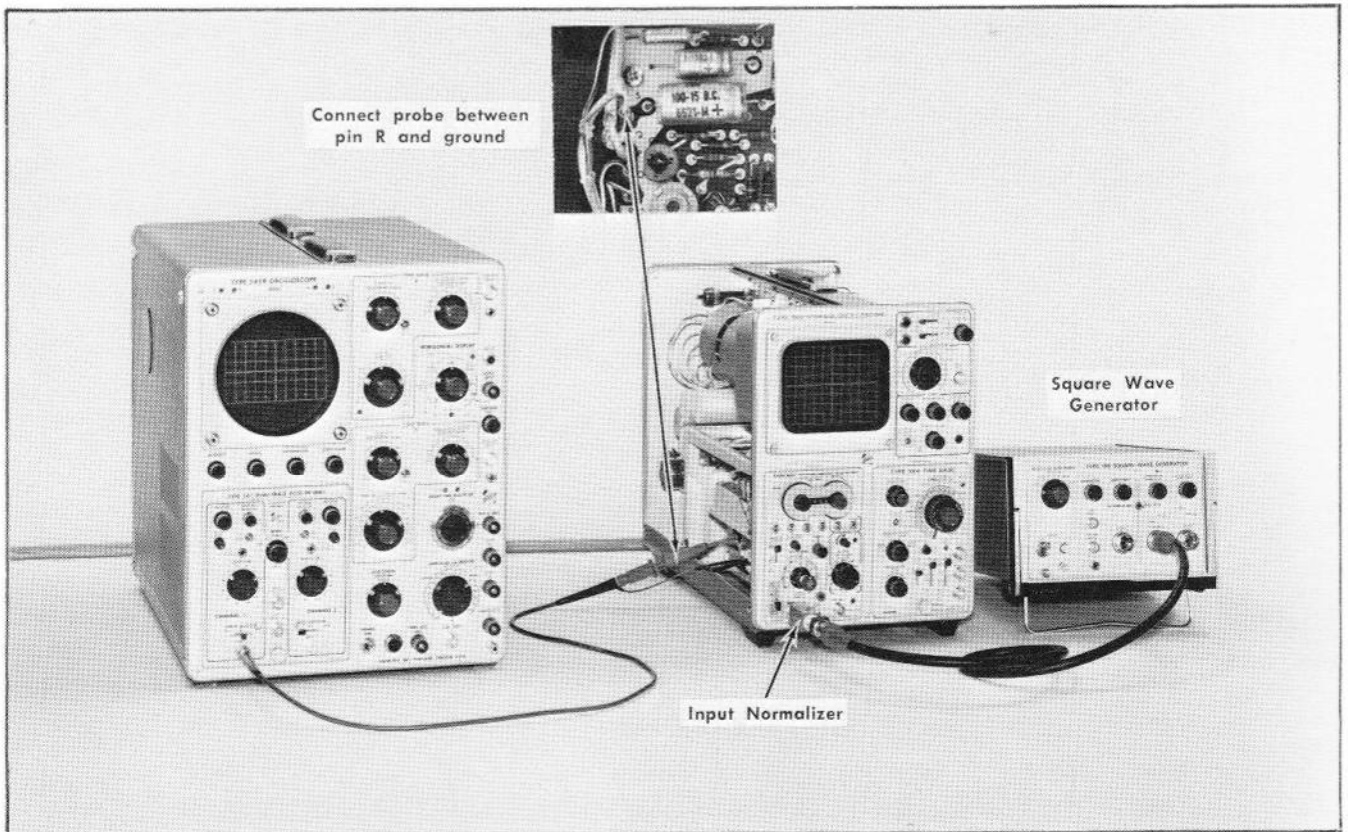

Fig. 6-3. Equipment setup for adjusting VOLTS/DIV compensation.
a. Equipment setup is shown in Fig. 6-3.
b. Connect a properly compensated 10× probe from the test oscilloscope between pin R and ground of the Input Amplifier board. See Fig. 6-3.